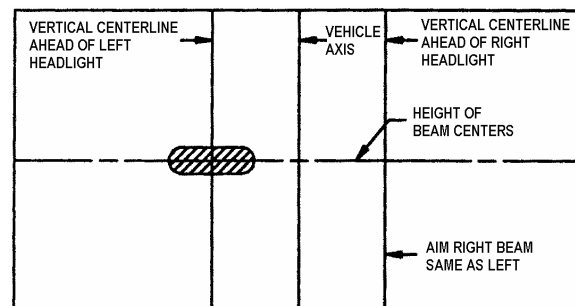

FIGURE 32: HIGH-INTENSITY ZONE (SHADED AREA) OF A PROPERLY AIMED UPPER BEAM ON THE AIMING SCREEN 7.6 M (25FT) IN FRONT OF VEHICLE
- High beam headlights are aimed so that the center of the high-intensity zone is located at the horizontal and straight ahead vertically (Fig. 32).